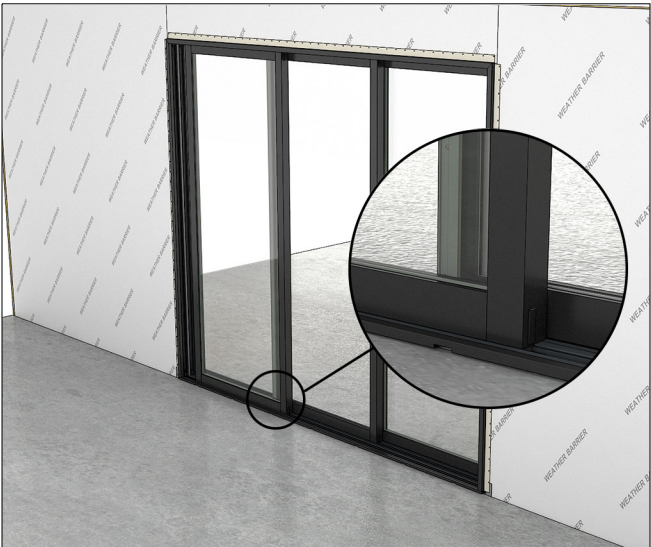

Figure 77
3. Install stationary panels last. Install the panel so it is as close to the jamb as possible but overlapping the previous panel installed. See Figure 77.